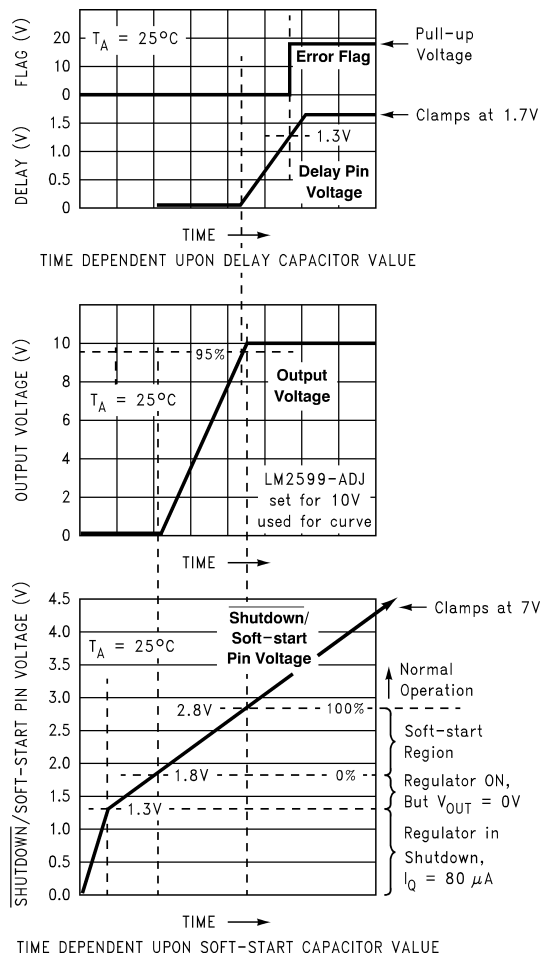
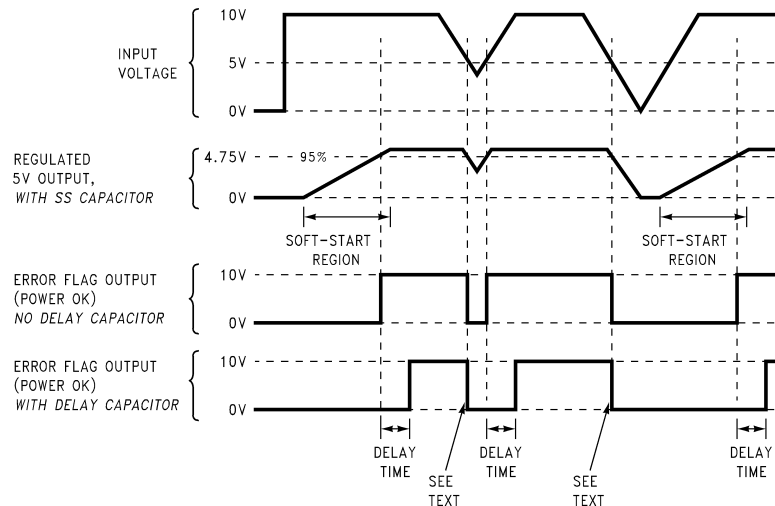

Figure 29. Soft-start, Delay, Error, Output
Figure 30. Timing Diagram for 5V Output
C_{SS} — A capacitor on this pin provides the regulator with a Soft-start feature (slow start-up). When the DC input voltage is first applied to the regulator, or when the Shutdown /Soft-start pin is allowed to go high, a constant current (approximately 5 μ A) begins charging this capacitor). As the capacitor voltage rises, the regulator goes through four operating regions (See the bottom curve in Figure 29).
3. **Soft-start Region.** When the $\overline{\text{SD}}$ /SS pin voltage is between 1.8V and 2.8V (@ 25°C), the regulator is in a Soft-start condition. The switch (Pin 2) duty cycle initially starts out very low, with narrow pulses and gradually get wider as the capacitor $\overline{\text{SD}}$ /SS pin ramps up towards 2.8V. As the duty cycle increases, the output voltage also increases at a controlled ramp up. See the center curve in Figure 29. The input supply current requirement also starts out at a low level for the narrow pulses and ramp up in a controlled manner. This is a very useful feature in some switcher topologies that require large startup currents (such as the inverting configuration) which can load down the input power supply.
Note: The lower curve shown in Figure 29 shows the Soft-start region from 0% to 100%. This is not the duty cycle percentage, but the output voltage percentage. Also, the Soft-start voltage range has a negative temperature coefficient associated with it. See the Soft-start curve in the Electrical Characteristics section.
C_{DELAY} — Provides delay for the error flag output. See the upper curve in Figure 29, and also refer to timing diagrams in Figure 30. A capacitor on this pin provides a time delay between the time the regulated output voltage (when it is increasing in value) reaches 95% of the nominal output voltage, and the time the error flag output goes high. A 3 μ A constant current from the delay pin charges the delay capacitor resulting in a voltage ramp. When this voltage reaches a threshold of approximately 1.3V, the open collector error flag output (or power OK) goes high. This signal can be used to indicate that the regulated output has reached the correct voltage and has stabilized.